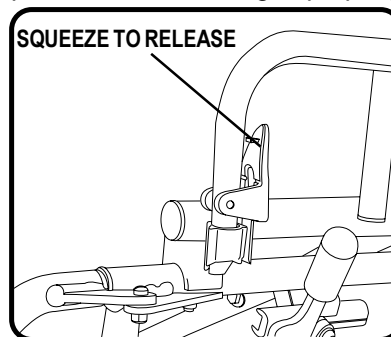

Figure 6. Flip-up Armrest Latch
4. If necessary flip up an armrest. See figure 6.